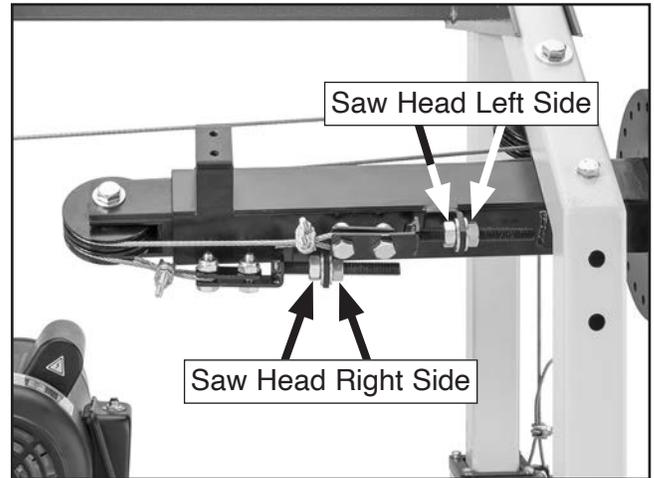

Figure 55. Location of saw head leveling bolts (switch panel removed for clarity).
67. Adjust nuts shown in **Figure 55** to adjust left or right side of saw head up or down until back of blade is same distance from log bunk on either side.